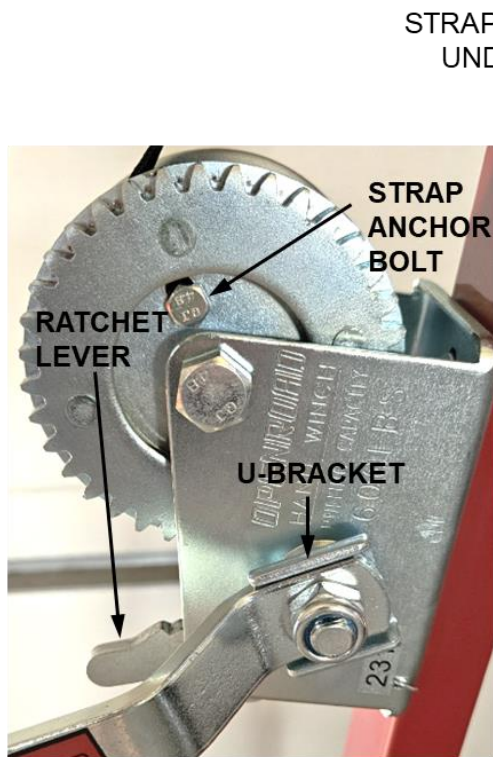

Figure 6
1. Install Winch Handle on Winch with U-Bracket (Figure 6) between the Winch shaft and Handle.
Strap Installation and Routing (Figure 6 & 7)
1. Remove Strap installed on the Winch. This can be accomplished by pulling out the entire Strap and removing the anchor bolt (Figure 6).
3. Set the Ratcheting Lever (Figure 6) in the upper position on the Winch for raising the Trolley.